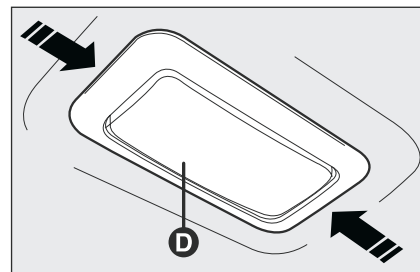
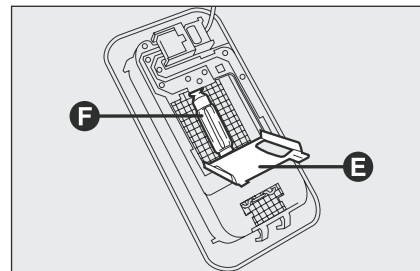

fig. 23
fig. 24
- work in the points shown by the arrows and remove light **D**-fig. 23;
- open the protection lid **E**-fig. 24;
- change the bulb **F**-fig. 24 releasing it from the side contacts and making sure the new bulb is correctly fastened between the contacts;
- re-close the protection lid **E**-fig. 24 and secure light **D**-fig. 23 into its housing locking it properly.